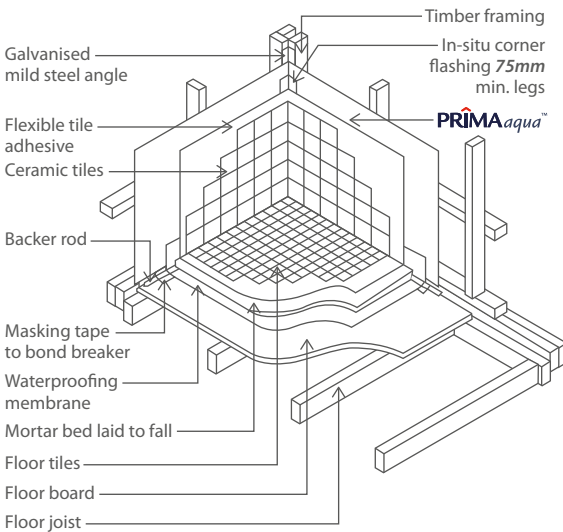
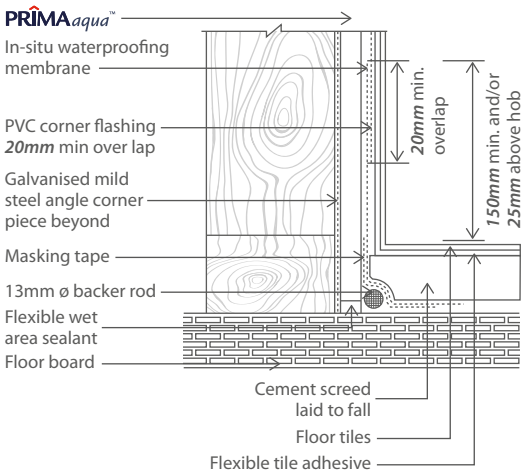

Figure 49 : Cast In-situ Internal Membrane
Figure 50 : Detail of Cross-section at Wall-to-Floor
Refer to Figure 49 and Figure 50.
6. Apply the waterproofing membrane to the floor and **PRIMAaqua**™ wall. Waterproofing on **PRIMAaqua**™ must extend a minimum of 150mm above the finished bathroom floor level or 25mm above the highest possible water level. Refer to Figure 49 and 50. In all cases, refer to membrane manufacturer for details.